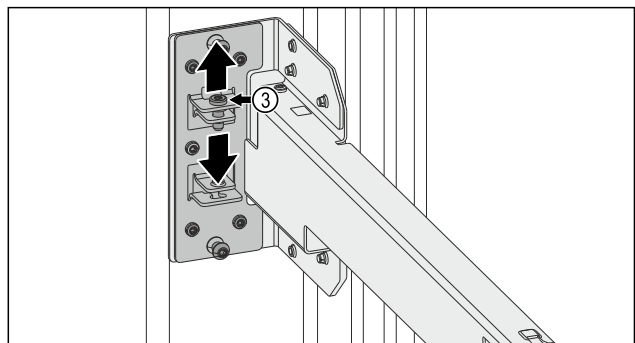

Fig. 14
- ▶ Loosen screw Fig. 14 (3).
- ▶ Screw the screw Fig. 14 (3) tight.